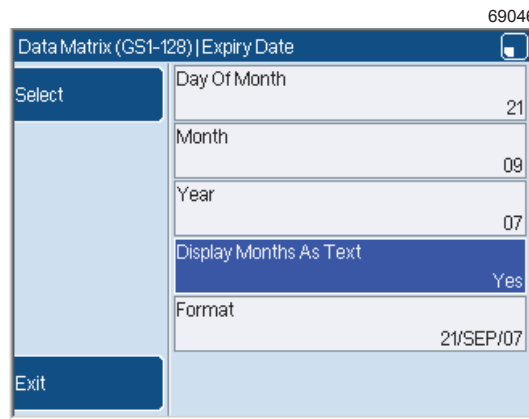

Figure 36. Data Matrix (GS1-128): Expiry Date page with month displayed as text
- **Display Months As Text**—if set to Yes, the selected month is displayed as text (for example 21/09/07 becomes 21/SEP/07, as shown in Figure 36). The option defaults to No.